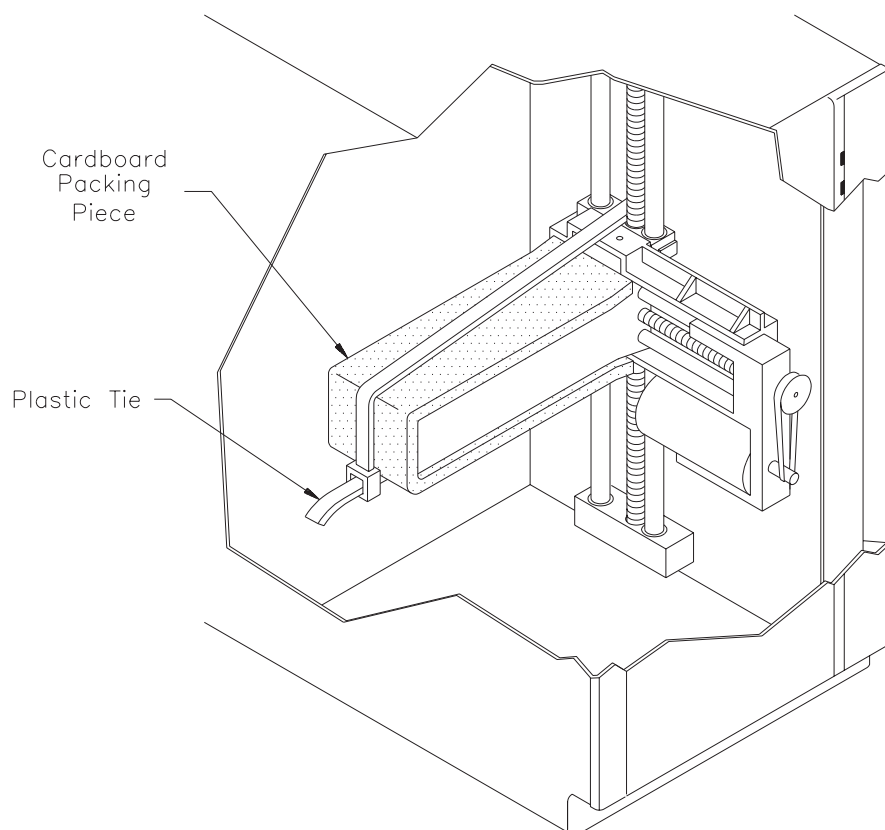

Figure 6-2 Packing the grab base
- b. Place the cardboard packing piece around the grab base, as shown in Figure 6-2, and secure it with a plastic tie (available from most hardware stores).